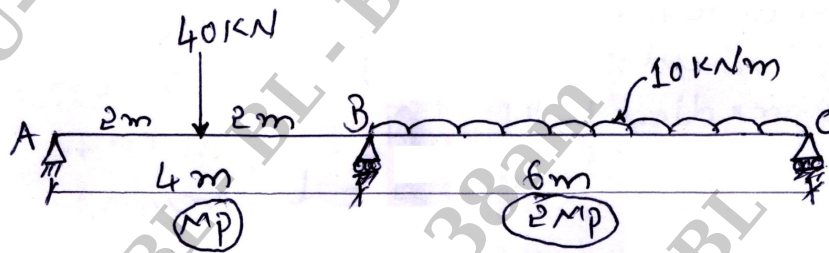

Fig.Q.2(b)
- b. Calculate the plastic moment capacity required for continuous beam subjected to working load as shown in Fig.Q.2(b). Take load factor = 1.5. (10 Marks)